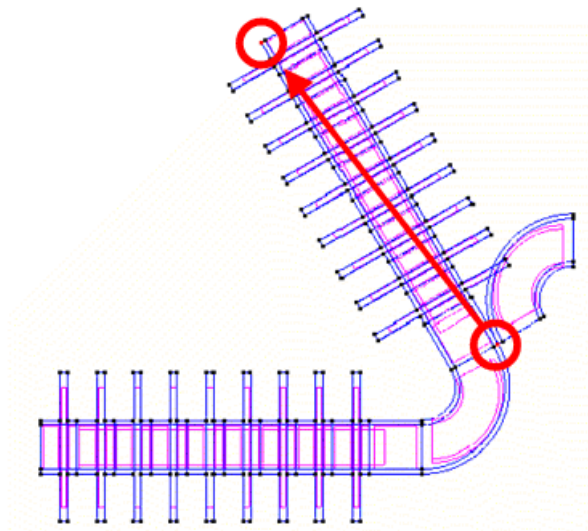

Figure 19. The circled points define the translation vector.
- 3 . Select **Utilities->Move** window, select **Surfaces** and **Translation**. The points defining the translation vector are circled in Figure 19.